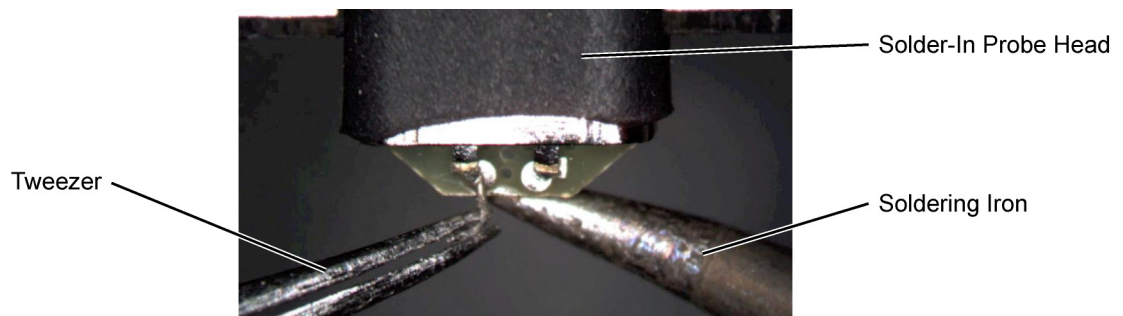

Figure 67 Removing the Old Wire
- 2 As shown in **Figure 67**, remove the old wires with tweezers while re-flowing the solder from the underside of the probe.